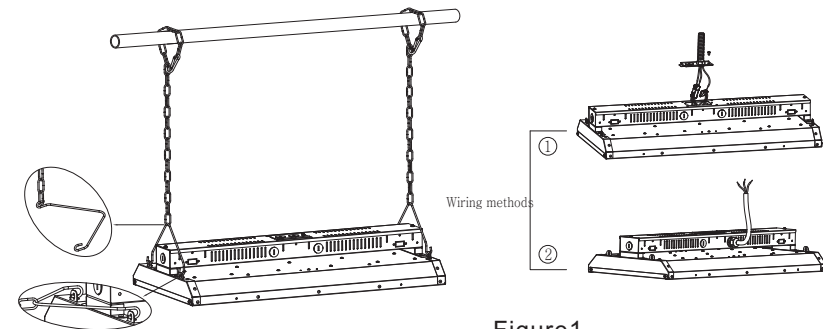

Figure 1
- Step1.Hook up the chain; (Figure 1)
Step2.Connect the chain with fixture; (Figure 1)
Step3. Fix the chain on the rail, adjust the chain length as per need; (Figure 1)